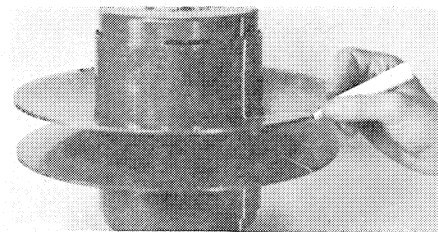

Fig. 3
2. Using a marker or chalk to reference flanges and end caps, match-mark sheave as shown in Figure 3. This is **IMPORTANT** so that all parts can be reassembled in their original positions to maintain correct balance.